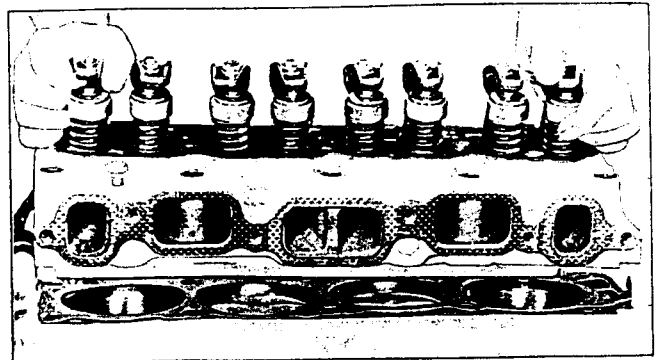

Figure 8-1-18
4. Carefully guide cylinder head into place over dowel pins and gasket (see Figure 8-1-18).